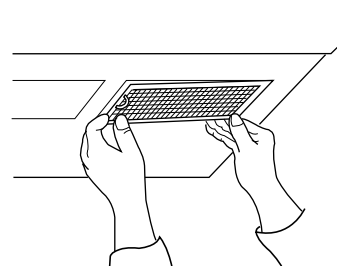

Figure 38
9. Grasp filter screen with one hand holding the ring and the other hand holding the opposite end. Insert the end of the filter screen without ring into the opening and slide towards the side of the microwave oven. Insert ring end of filter screen into the opening and slide entire screen towards the center of the microwave until screen is securely in position. Repeat for other filter screen. See Figure 38.